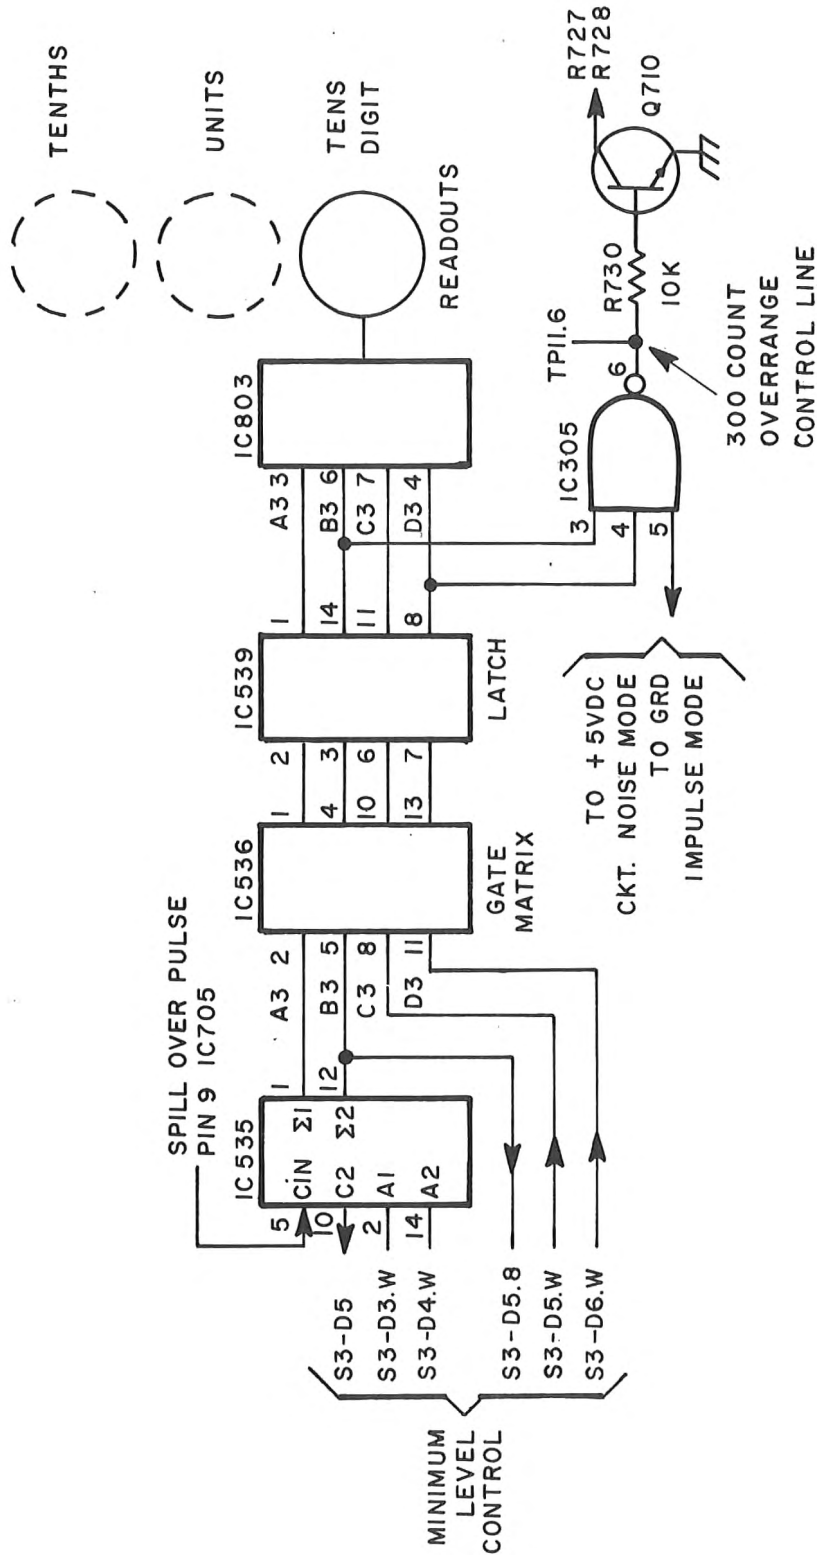

Figure 4-5 100dB Over Range Logic Schematic
- 4.13 The decade counters IC701 and IC702 provide the binary information for the tenths digit and the units digit respectively. The binary information for the tens digit is derived from a combination of a two bit full adder manually programmed by the MINIMUM LEVEL CONTROL S-3 (decks 3, 4, 5 and 6) and follows the truth table described in fig. 4-2. The binary information for the tens digit appears at the input of the latch IC539 via gate matrix IC536. (See Fig 4-5) Only these three digits are used when reading circuit noise. The fourth digit is extinguished. A decimal point is controlled by the SELECTOR switch S-4 (deck 3A) and appears between the tenths digit and the units digit when in the CIRCUIT NOISE position.
- 4.19 One other overrange condition exists in addition to the one described in par. 4.17. When the MINIMUM LEVEL CONTROL S-3 is in the 90dBrn position. In this position, the operating dynamic range is restricted to 10dB. At exactly 100dBrn, the readout tubes are extinguished and the overrange lamp DS-2 is illuminated (See Fig. 4-5).